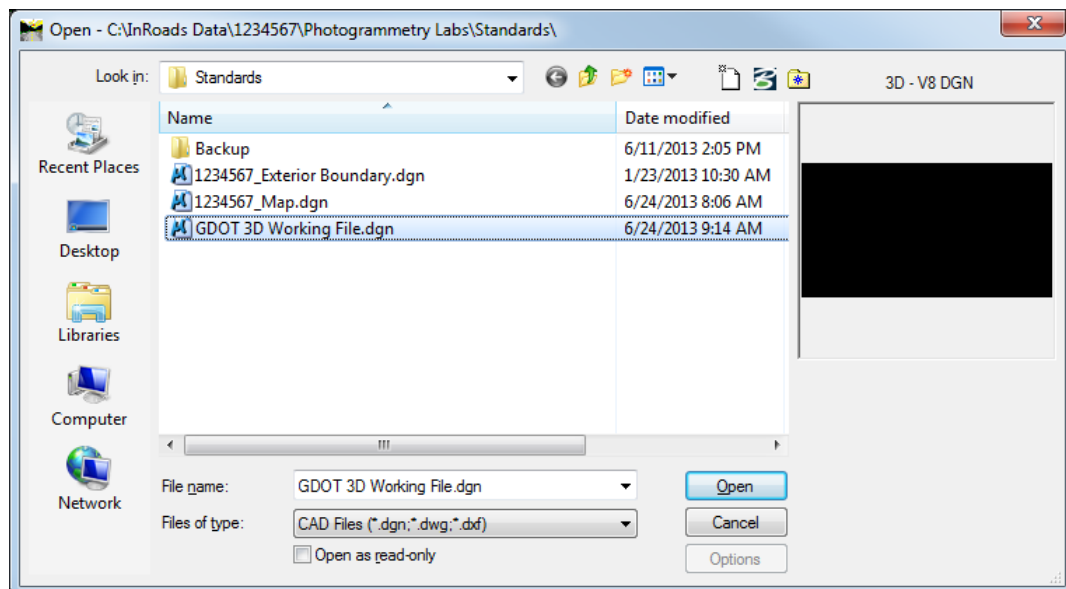
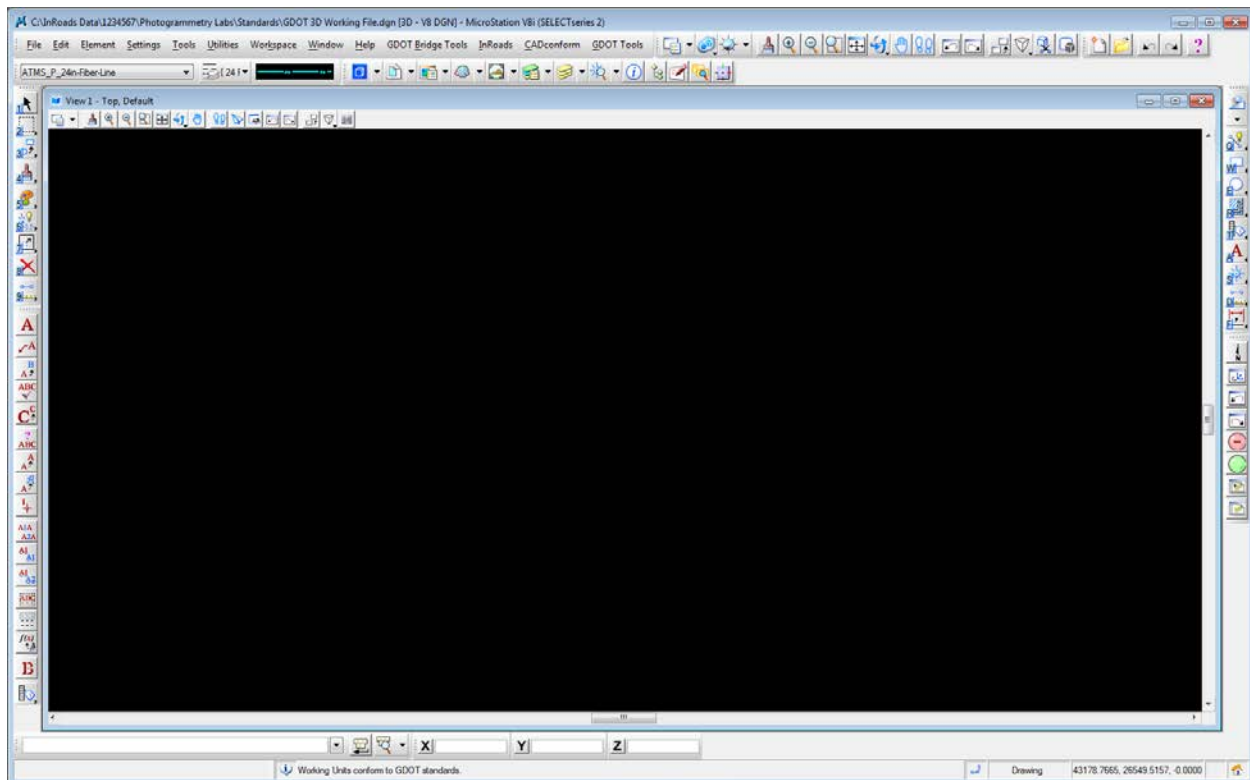

Figure L1-3 Starting MicroStation V8i and InRoads Suite V8i
Figure L1-4 Main MicroStation V8i Window
*After the **MicroStation** Splash Screen appears, the **MicroStation Manager** dialog (See Figure L1-3) will open so that you can select a “**Working**” DGN file. Once **InRoads** and **MicroStation** are up and running, your desktop should look similar to that of Figure L1-4 and Figure L1-5.*